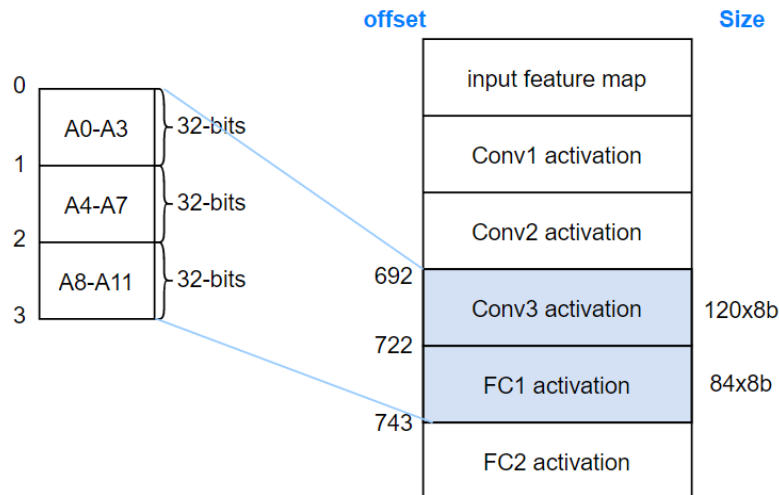

Figure 2: Layout of the activation SRAM.
4. Figure 2 shows the layout of the activation SRAM. Initially, all SRAM locations, except offsets 692 to 721, will be zero. The testbench will load the Conv3 output activations